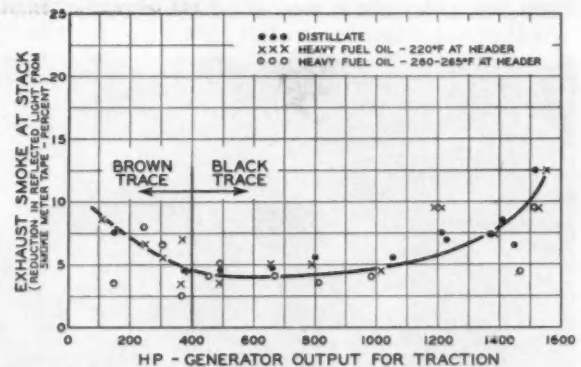

Fig. 2—Relation between per cent exhaust smoke and generator output for traction (4-stroke engine).
2. EXHAUST SMOKING with ASTM No. 6 fuel above 25% load factor was comparable to that observed with distillate fuel. Below 25% load factor, the smoke meter trace changed from black to brown, indicating that unburned fuel was being emitted from the exhaust stacks (Fig. 2).